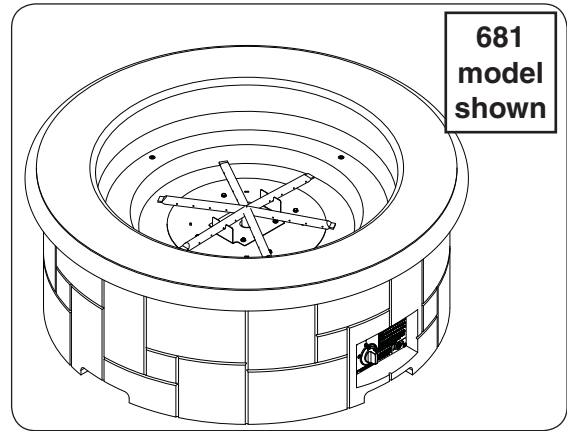

Fig. 22-1 Place unit
1. **CAREFULLY** place the unit in an appropriate location (see Fig. 22-1, and refer back to the LOCATION section if needed).